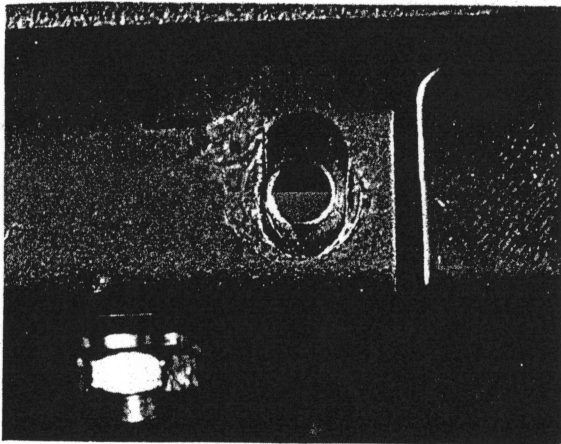
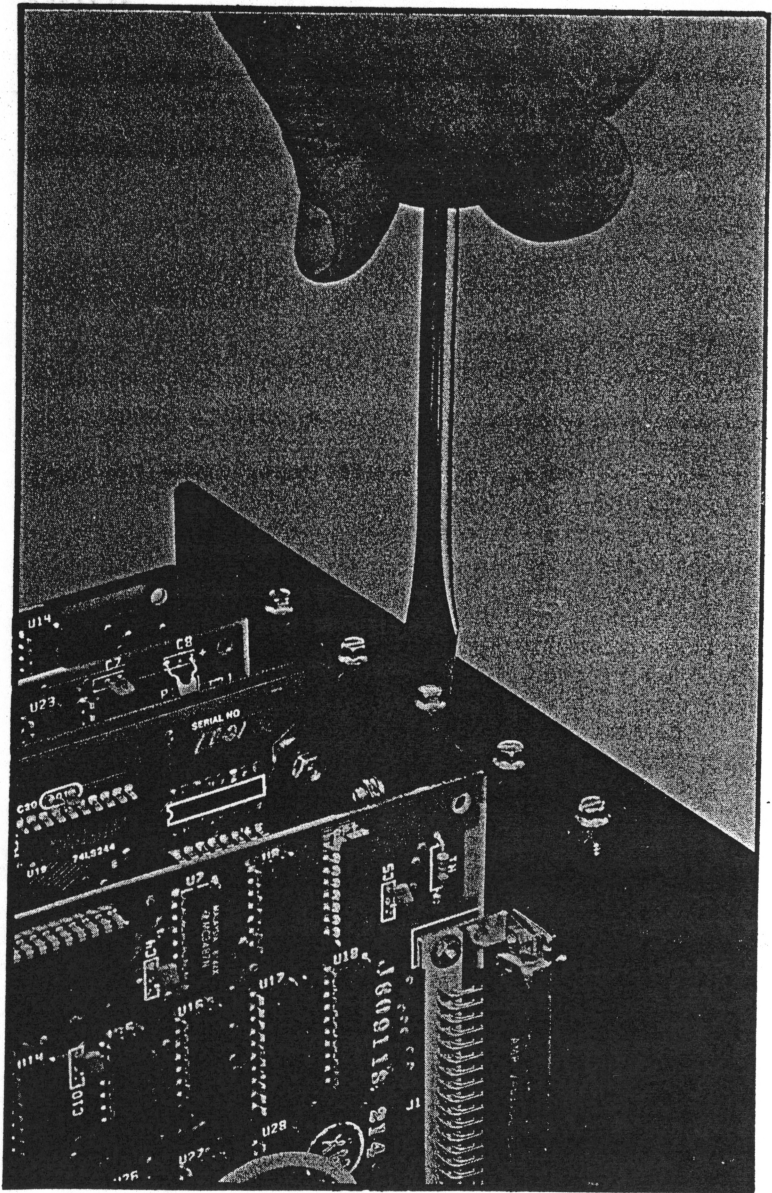

Figure 8
Figure 9
*Closing up:* Center the back-panel screwhole within the mounting bracket's elongated hole, both left-to-right and front-to-rear (Figure 8). Then replace that screw we asked you to save, and cinch it tight with your screwdriver or nutdriver (Figure 9).